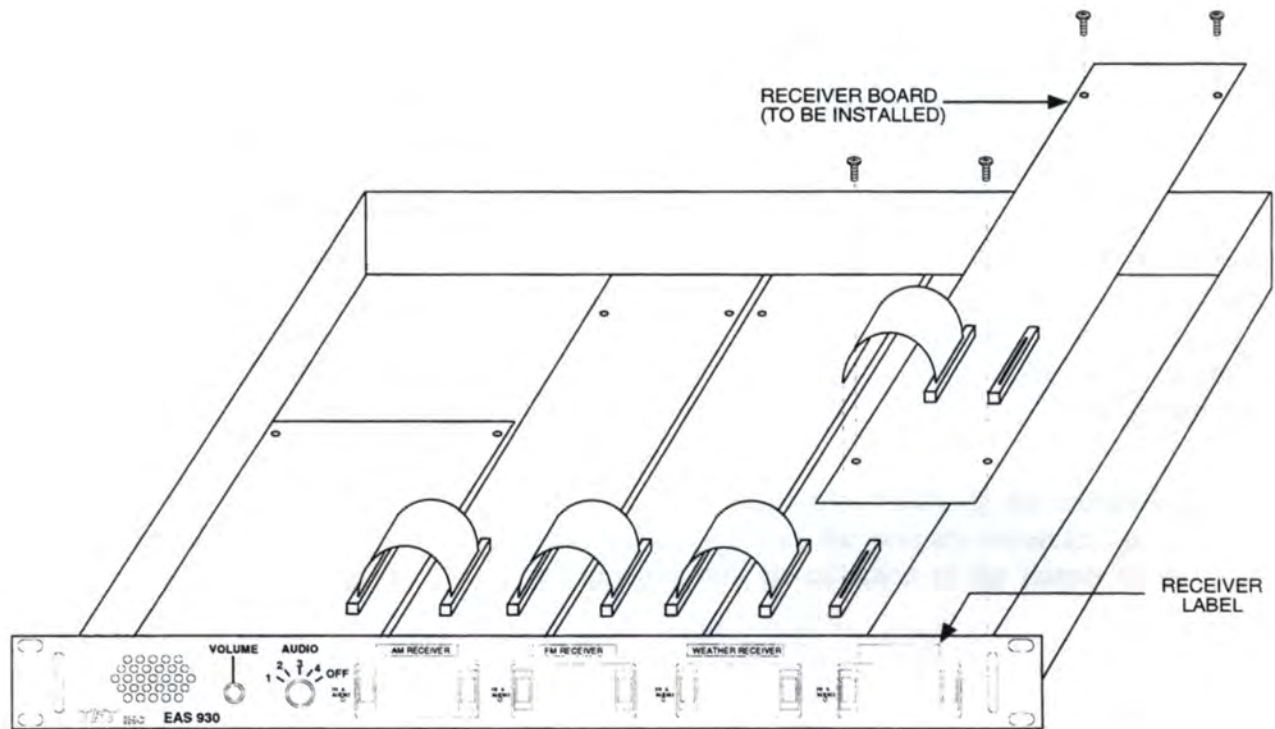

Figure 4-5. Receiver Kit Installation Diagram
- c. Install the AM Receiver module onto standoffs using four #4-40 screws according to the Receiver Kit Installation Diagram (Figure 4-5). Make sure that the RF & AUDIO LED aligns with the corresponding RF & AUDIO hole in the front panel.
- c. Install the FM Receiver module onto standoffs using four #4-40 screws according to the Receiver Kit Installation Diagram (Figure 4-5). Make sure that the RF & AUDIO LED aligns with the corresponding RF & AUDIO hole in the front panel.
- c. Install the Weather Receiver module onto standoffs using four #4-40 screws according to the Receiver Kit Installation Diagram (Figure 4-5). Make sure that the RF & AUDIO LED aligns with the corresponding RF & AUDIO hole in the front panel.